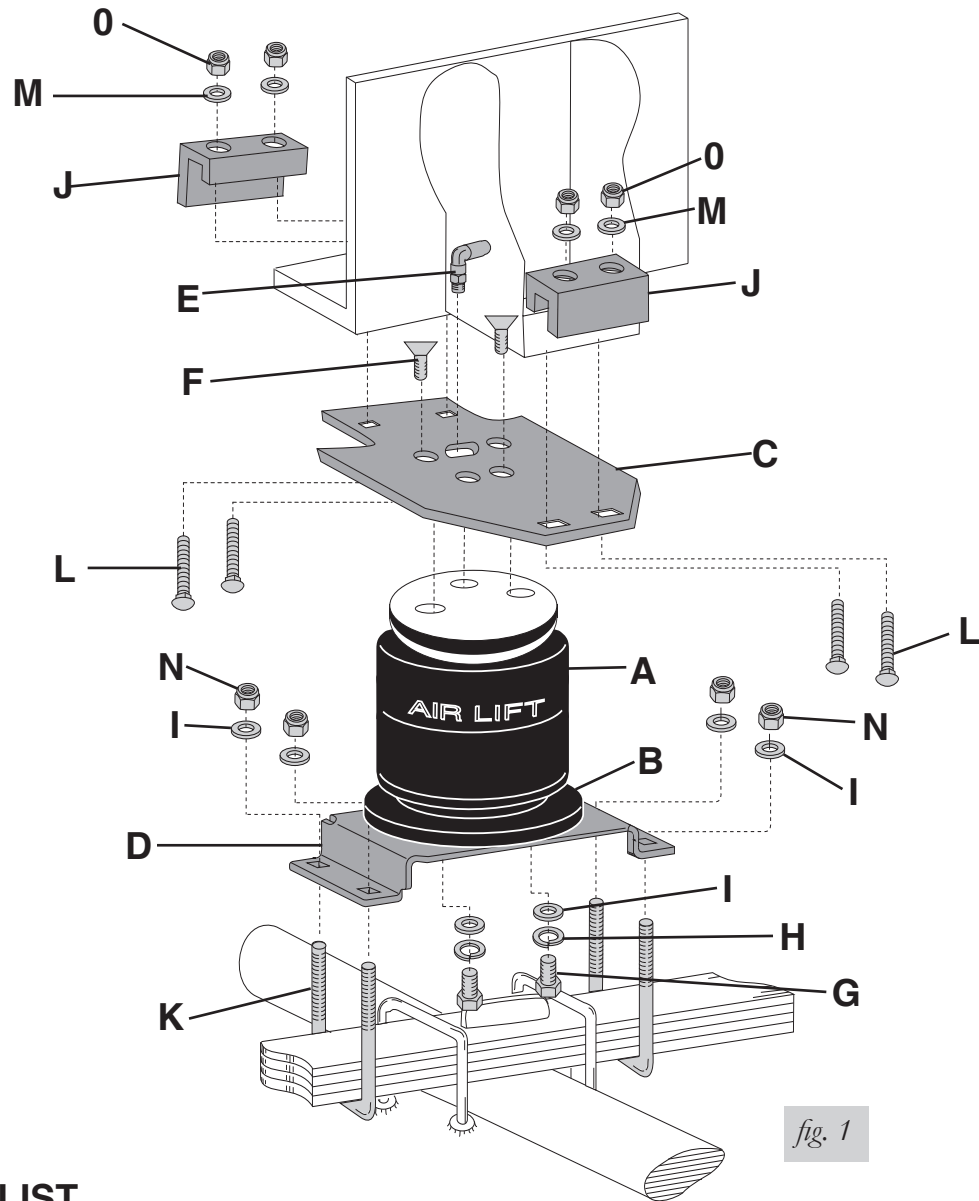

fig. 1
1. Set the assembly onto the leaf spring. Index the fitting into the existing hole in the frame flange, forward of the axle (see fig.1 and fig. 6a).
6. Install the u-bolts under the leaf spring, through the lower bracket and cap with a 3/8" flat washer and nyloc nut. Torque the u-bolts evenly to 16 ft/lbs. Trim the excessive length of the u-bolts close to the nyloc nut (see figs. 1 and 8). Repeat for the opposite side.